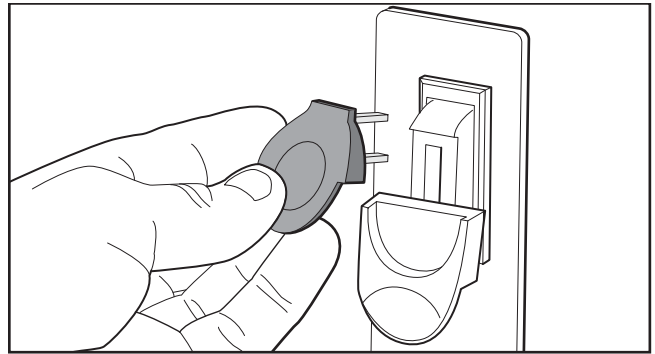

Figure 10. Disabling switch by removing key.
6. Remove the switch disabling key, as shown in **Figure 10**.